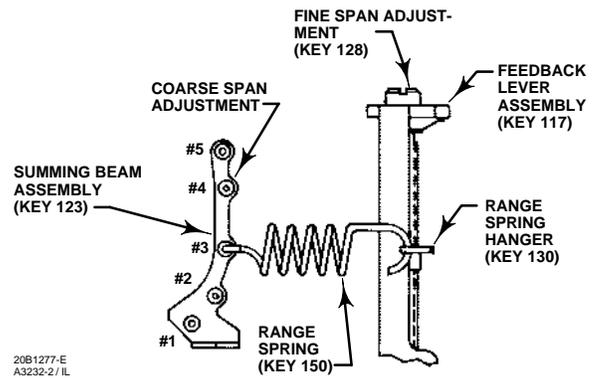

Figure 15. Span Adjustment
2. Use tables 4 through 7 and figure 15 to select the desired range spring and coarse span
adjustment. (The tables and figure 15 are only valid for the standard valve travel/range spring combinations shown.) Insert one end of the range spring (key 150, figure 25) into the hole on the range spring hanger (key 130) as shown in figure 15. Insert the other end of the range spring into the hole selected on the summing beam assembly (key 123, figure 15).
**Be sure the range spring hanger (key 130) passes under the feedback lever assembly (key 117) as shown in figure 15.**